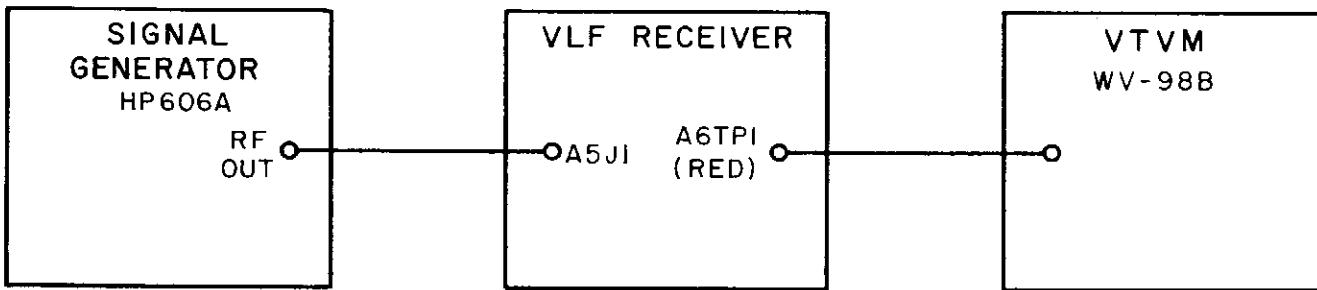

Figure 4-1. Equipment Setup, IF Alignment
- (1) Set up equipment as shown in Figure 4-1
- (1) Set up equipment as shown in Figure 4-1 except that signal generator output connects to A12J1.
- (2) Make the following initial control settings:
- (3) Adjust signal generator output level for 1-Vdc reading on VTVM.
- (4) Adjust A12A2L1, A12A2L2, and A12A2T2 for maximum reading on VTVM. The signal generator output level should be decreased as required to maintain 1-Vdc reading on VTVM.
- (5) Connect VTVM to feedthru capacitor A12C6; set to 15-Vdc scale.